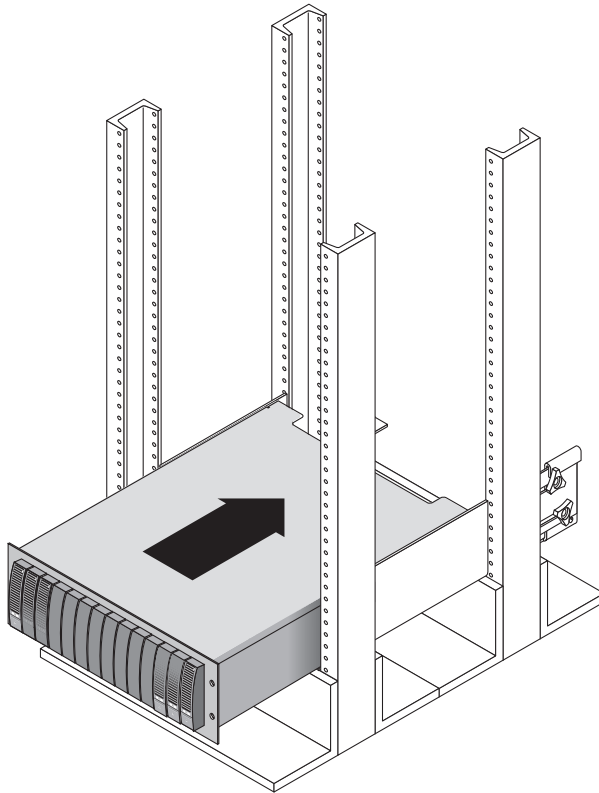

FIGURE 16 Sliding the Array Module Into the Telco 4-Post Rack
3. Carefully slide the array module onto the mounting rails until the front bezel of the module contacts the rail flange on each side (FIGURE 16).